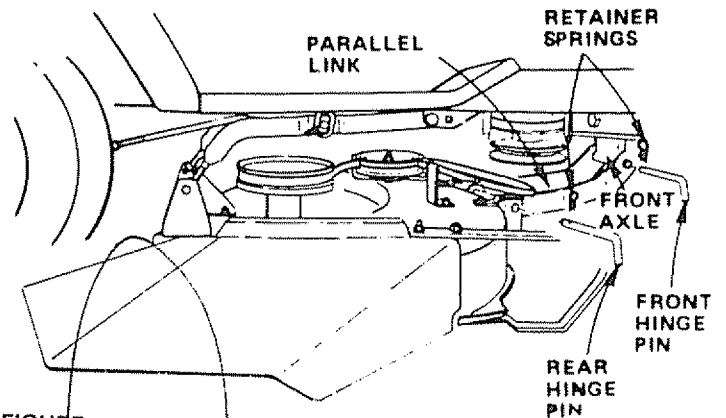

FIGURE 26
- b. Install front hinge pin through axle and parallel link (Fig 26). Secure with retainer spring.
- c. Install rear hinge pin through mower lift brackets and parallel link (Fig 26). Secure with retainer spring